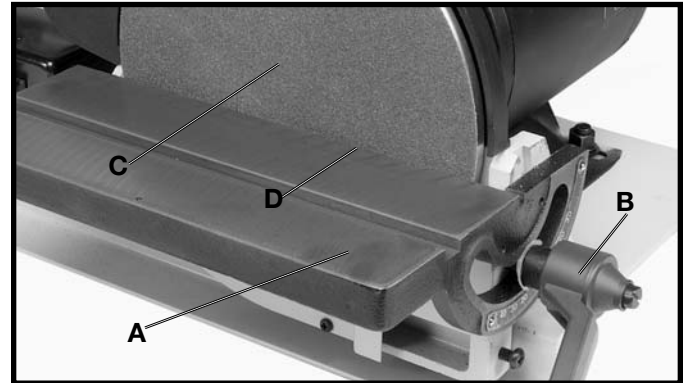

Fig. 28
The disc table (A) Fig. 28, can be tilted 45 degrees up or down, by loosening lock handle (B), tilting the table, and tightening lock handle (B). **NOTE:** The lock handle (B) is spring-loaded and can be repositioned by pulling out the handle (B) and repositioning it on the serrated locking stud located directly underneath the handle.